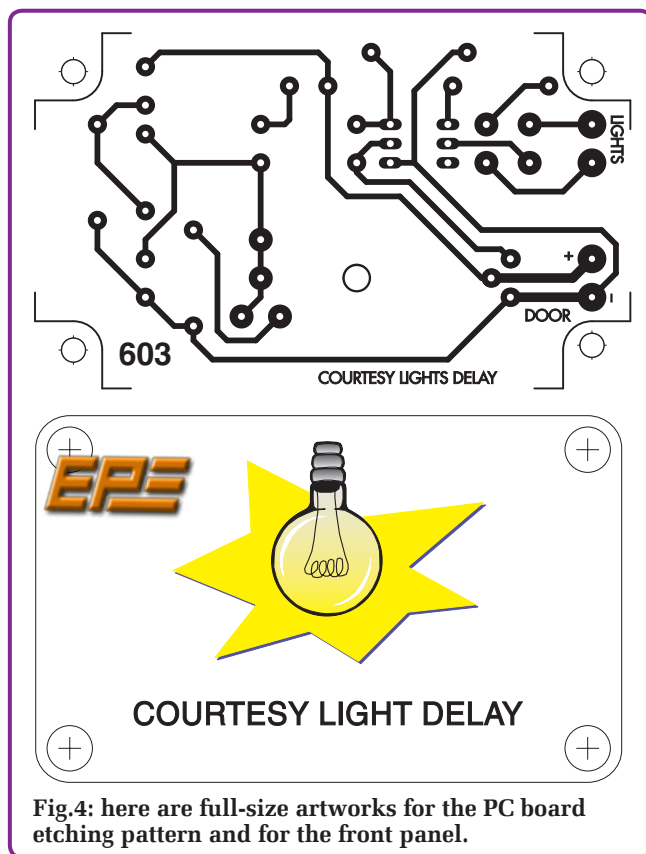

Fig.4: here are full-size artworks for the PC board etching pattern and for the front panel.
- 1 front panel label, see Fig.4